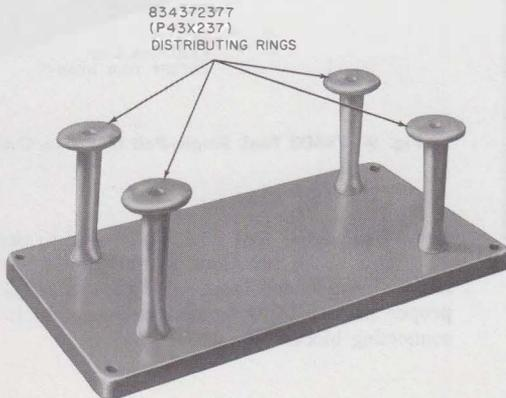

Fig. 4—188A1 Backboard
2.07 The 188A1-type backboard (Fig. 4) for cross-connecting wire is used to provide a wiring channel for horizontal movement in large installations. It is made of four 834372377 (P-43X237) distributing rings mounted on a metal panel 1/2-inch thick by 10-3/4 inches long by 6-1/2 inches wide.